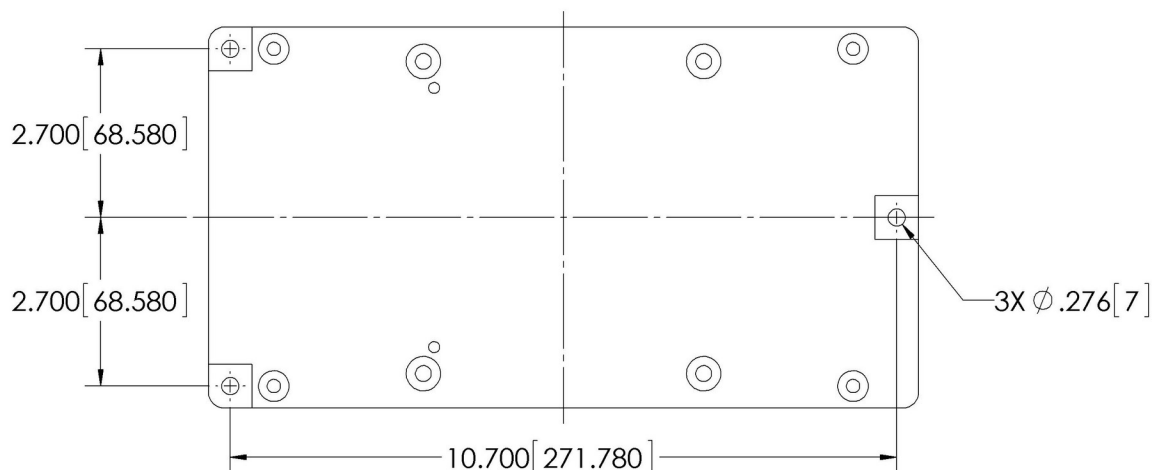

Figure 5: AFD310-3 Table Top Mounting Plate
The AFD310-3 is designed for mounting on a stationary fixture. It has (3) three Ø0.28” (Ø7.0 mm) mounting holes spaced as shown in Figure 5. The AFD310-3 Table Top Mounting Bracket should not be modified without first consulting PushCorp, Inc.